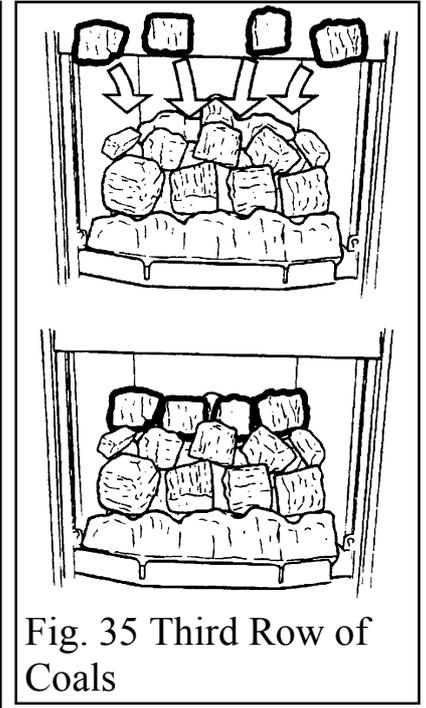

Fig. 35 Third Row of Coals
6. Place the four remaining coals in a row at the back of the firebox compartment. See figure 35.